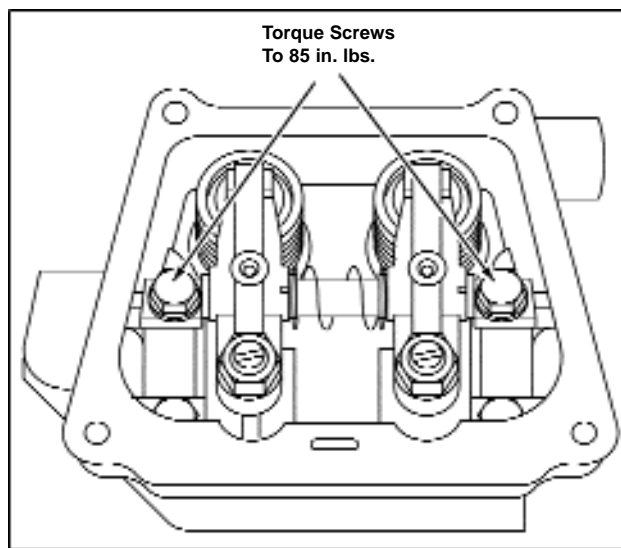

Figure 98 - Installing Rocker Arm Shaft
3. Install two (2) screws in rocker arm shaft and cylinder head. Torque screws to 85 in. lbs.(9.6 Nm), Figure 98.